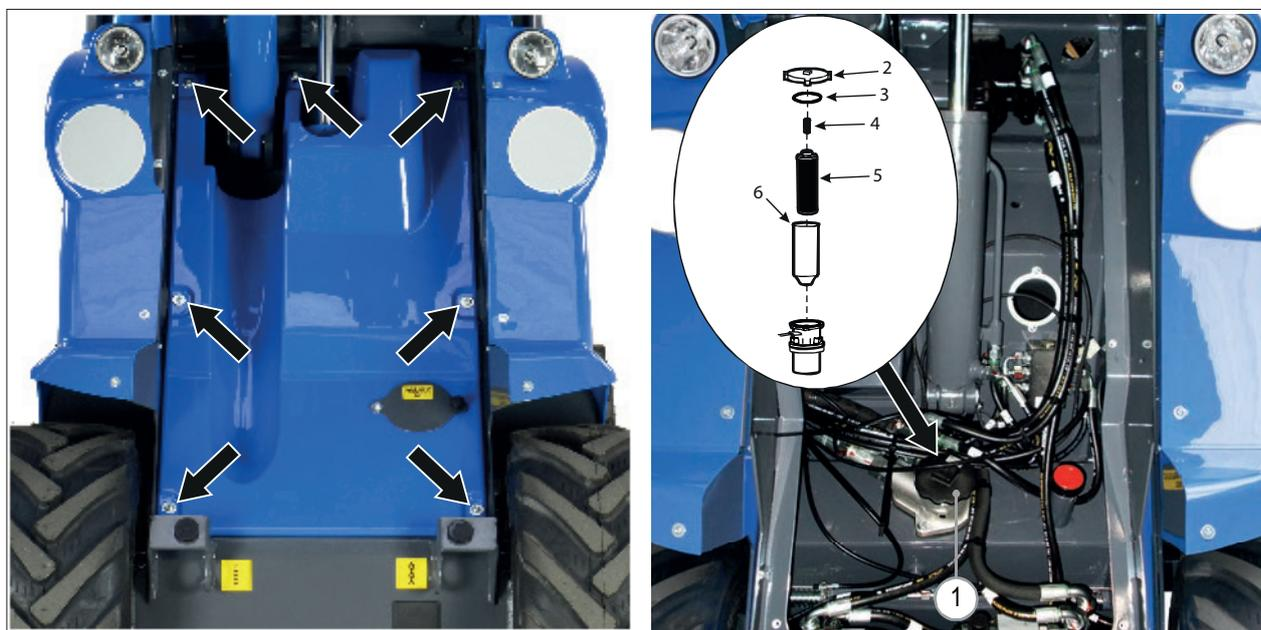

FIG. 46
- 3) Remove the front panel by loosening the screws that secure it to the frame (see FIG. 46).
- 4) Remove the filter cover by rotating the cover. It may be necessary to use a wrench to loosen the cover (FIG. 46 - Ref. 1).
- 5) Remove the spring (FIG. 46 - Ref. 4), and the filter element (FIG. 46 - Ref. 5) from the plastic sleeve (FIG. 46 - Ref. 6).
- 7) Reinstall the spring and inspect the filter cover O-ring for any signs of wear or damage. This O-ring is located in a groove at the top of the filter body (FIG. 46 - Ref. 3). Replace the O-ring in case of wear or damage.
- 8) Reinstall the filter cover (FIG. 46 - Ref. 2) and secure it.